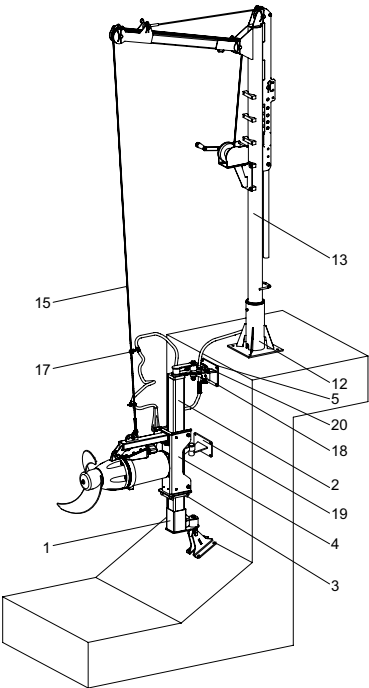

Fig. 6 Installation of SMD and SMG mixers
- motor bracket for mounting on column profile tube. See fig. 6.
Position numbers in figures 6 to 10
See fig. 6
6. Depending on the length of the column profile, weld the turnable part of an intermediate fixation bracket (19, fig. 6) to the column profile.
12. Fasten the depth blocker (3) in the right position.
13. Drill the holes for the mounting screws for the crane foot (12, fig. 6).